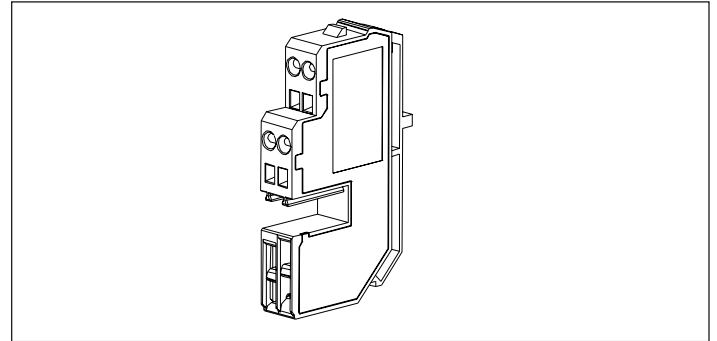

**Figure 8. Removing the terminal blocks (NF frame).**
**Step 4.** Remove any terminal block by inserting a small screwdriver (1/8" / 3 mm) in the recessed area in the top front of the terminal block as shown (see Figure 8), and gently pry down to release and remove the block from the DIN rail.